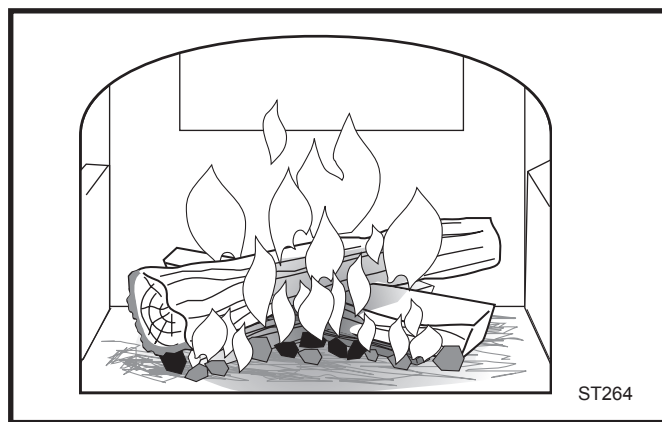

Fig. 32 Add larger pieces of wood as the fire begins to burn well.
4. If your Defiant has been broken-in previously using Steps 1-3, continue to build the fire gradually. Add larger wood with a diameter of 76-102 mm (3-4"). Continue adding split logs of this size to the briskly-burning fire until there is a glowing ember bed 51-76 mm (2-3") deep. (Fig. 32) A good ember bed is necessary for proper functioning of the non-catalytic system and may take an hour or more to establish.